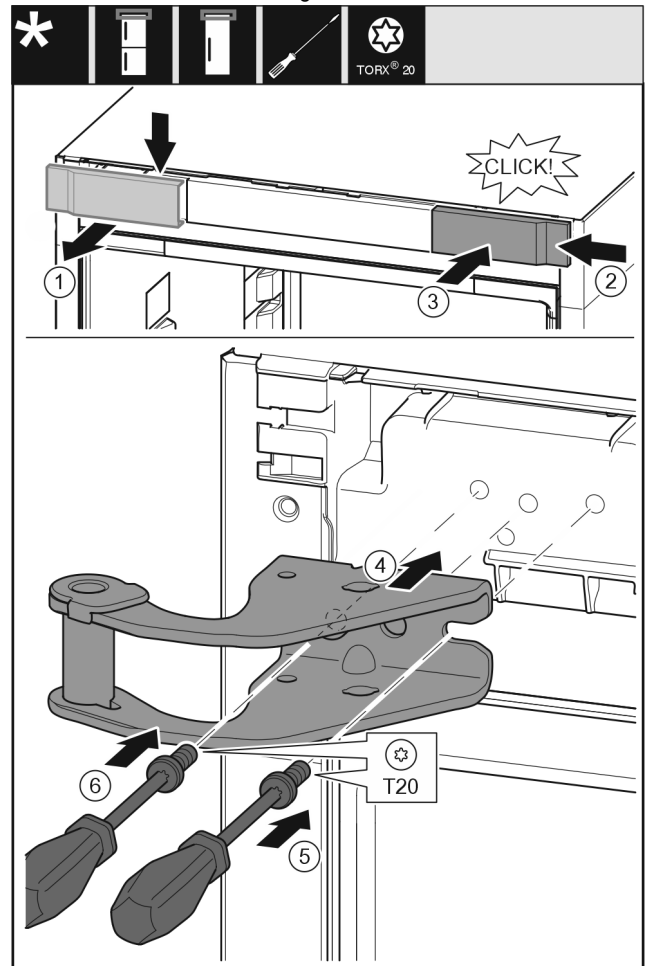

Fig. 11
- ▶ Take off the cover to the front from above. Fig. 11 (1)
- ▶ Rotate the cover 180° and clip onto the other side from the right. Fig. 11 (2)
- ▶ Latch the cover into place. Fig. 11 (3)
- ▶ Position the upper bearing bracket. Fig. 11 (4)
- ▶ Insert the screw with a T20 screwdriver and tighten it. Fig. 11 (5)
- ▶ Insert the screw with a T20 screwdriver and tighten it. Fig. 11 (6)